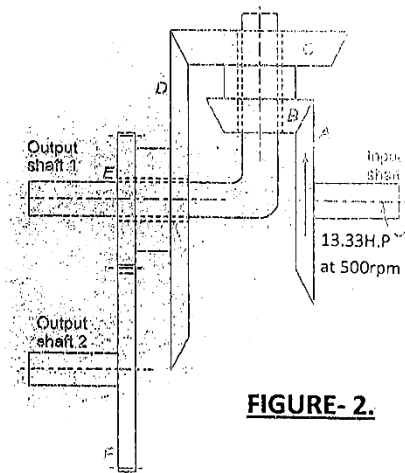

FIGURE-2.
5. A differential planetary gear train is shown in **FIGURE- 2**. The input shaft receive **13.33H.P.** power at **500r.p.m.** The pitch circle diameters of **bevel gears A,B, C and D** at the midpoint along the face width are **$\phi 250\text{mm}$, $\phi 125\text{mm}$, $\phi 250\text{mm}$ and $\phi 500\text{mm}$** respectively. The pitch circle diameters of **spur gears E and F** are **$\phi 250\text{mm}$ and $\phi 350\text{mm}$** . respectively. The gears rotate at constant speed.
- Calculate : (i) tangential component of tooth force between gears **A and B, C and D** and **E and F**. (10)